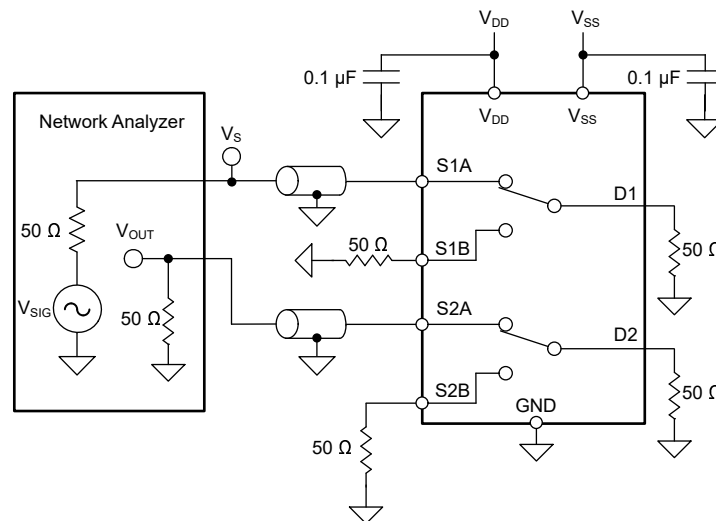

图 7-16. Inter-Channel Crosstalk Measurement Setup
2. Inter-channel crosstalk ($X_{\text{TALK(INTER)}}$): the voltage at the source pin (S_x) of an on-switch input, when a 1- V_{RMS} signal is applied at the source pin of an on-switch input in a different channel, as shown in 图 7-16.